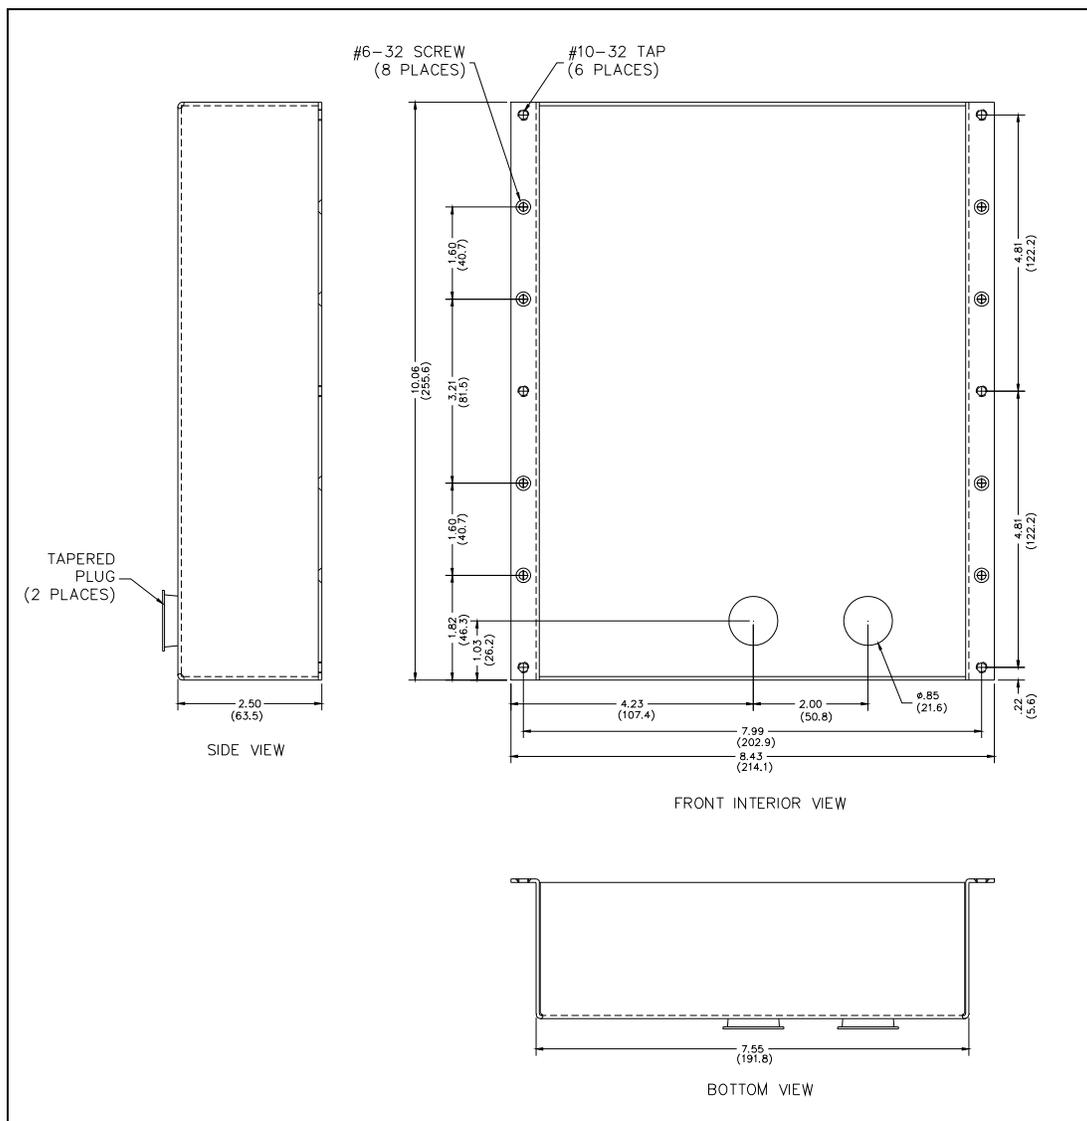

Figure 12. Model 276-001 Back Box Diagram
1. Mount the back box to the structure using appropriate hardware (see Figure 12)